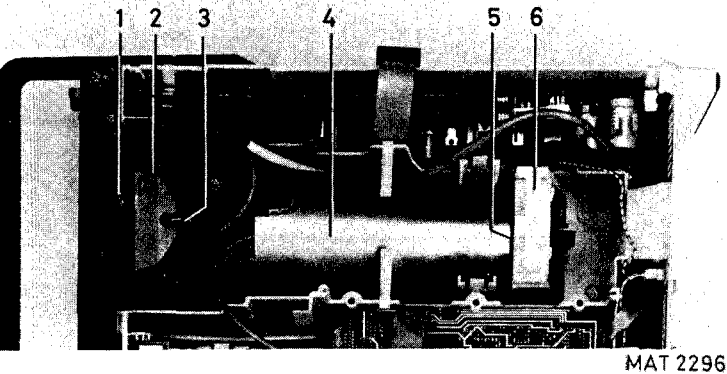

Figure 25.3 Inside view showing the parts in the CRT compartment
25.1.3 Mechanical parts indicated in figure 25.3